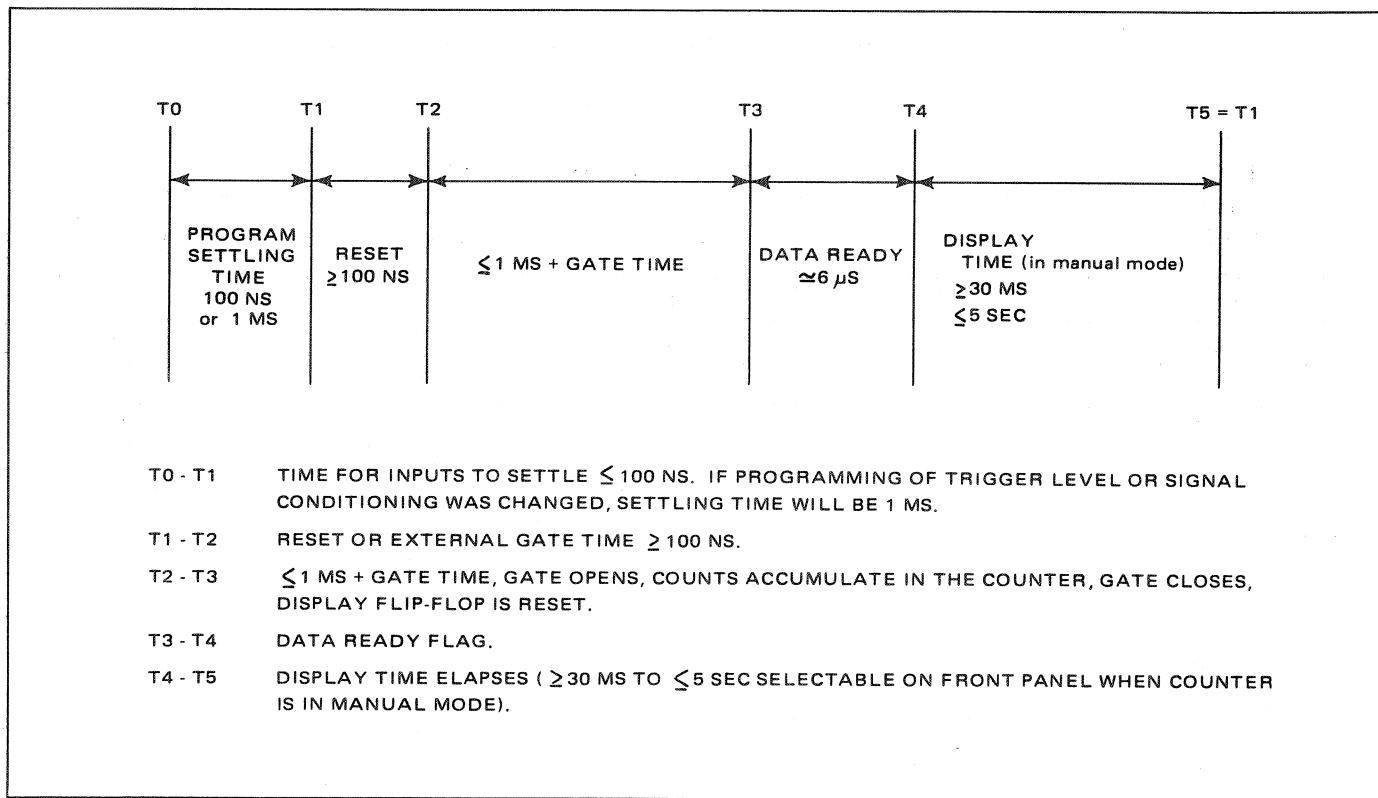

Figure 2.6 - Simplified Timing Diagram
2.62 Required information on timing for programming the instrument are provided in figure 2.6.